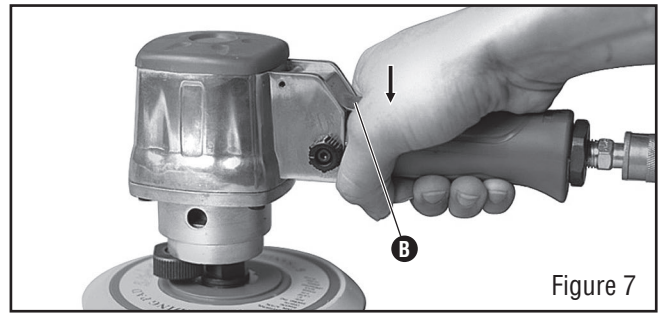

Figure 7
Slowly press the trigger (B) to start the tool. (See Figure 7)